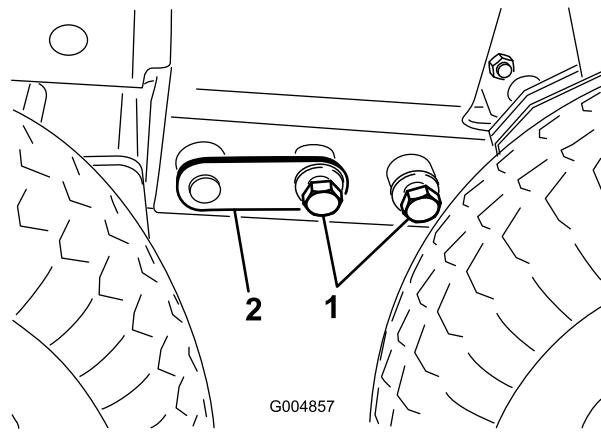

Figure 50
10. Adjust the floor jack as required to install the bolts (3/4 inch) on each side (Figure 50). Torque the bolts to 359 N·m (265 ft-lb).